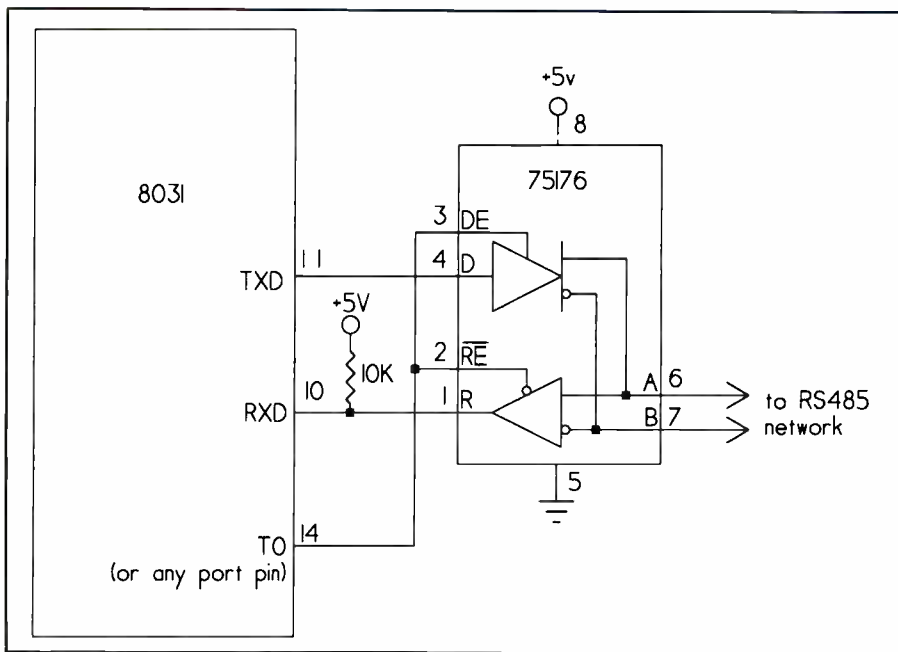

Fig. 1. Texas Instruments TS176 transceiver chip interfaces an 8031 microcontroller's serial port to an RS-485 network.
Figure 1 shows an RS-485 interface to an 8051 microcontroller. The interface uses a Texas Instruments 75176 transceiver chip, available from Jameco and other sources. The chip contains a three-state differential line driver, or transmitter, and differential-input line receiver, with an active-high enable (DE) for the driver and an active-low enable (RE) for the receiver. By tying DE to RE, you get a single direction-control line, high enabling transmit and low enabling receive.